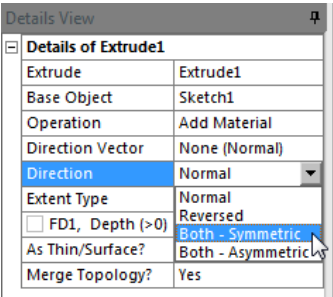

Figure 3-35 Selecting the Both-symmetric option from the Direction drop-down list in the Detail View window
- Based on the design requirements, the material should be added normal and symmetrically on both sides of the sketch. To add material to the extrusion, click on **Direction**; a down arrow is displayed on the right of **Direction** in the **Details View** window. Next, click on the down arrow and select the **Both-Symmetric** option from the list displayed, as shown in Figure 3-35. The preview of the extruded feature is changed in the **Graphics** window and now it displays the same amount of material added on both sides of the sketch.